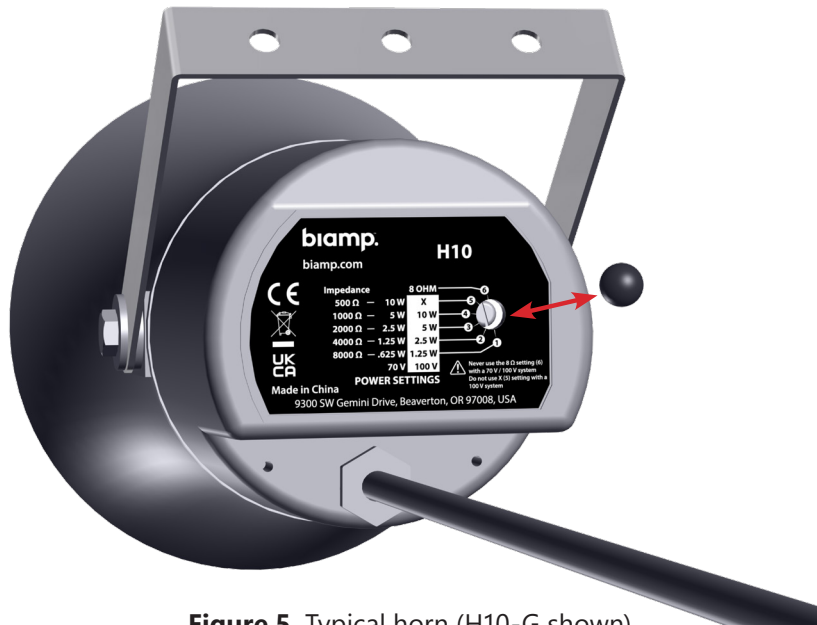

Figure 5. Typical horn (H10-G shown)
1. Remove the small black cap at the back of the horn to access the tap switch as shown in Figure 5.